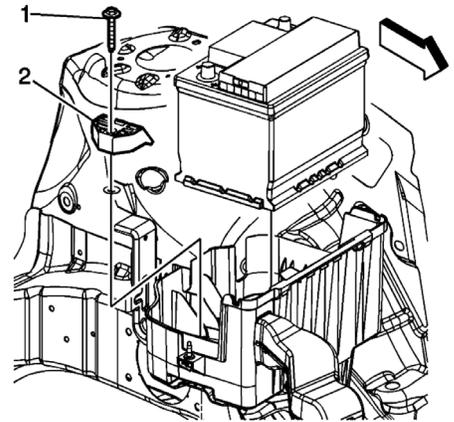

Fig. 4 Battery hold down & hold down bolt
13. Remove battery hold down bolt (1) and hold down (2), **Fig. 4**.